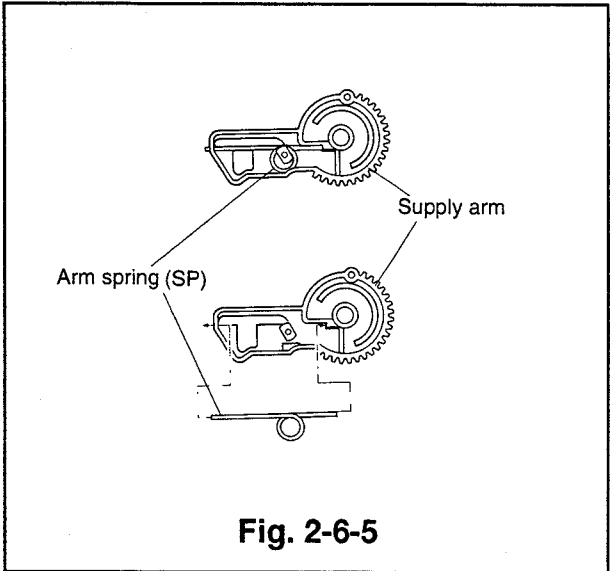

Fig. 2-6-5
- ⑧ Detach the arm spring from the supply arm as shown in Fig. 2-6-5.
- ① Attach the arm spring to the supply arm as shown in Fig. 2-6-5.